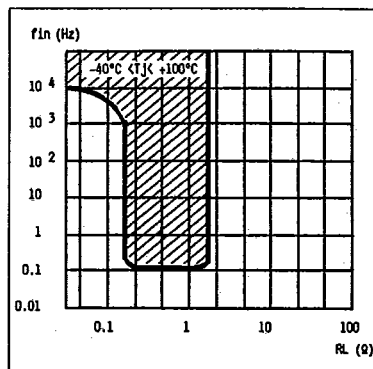

Figure 20. SOA for load resistance vs. input frequency.  $V_{CC} = +5V$ .
Due to a slight delay in the circuit, a high current transient will occur when the output is shorted to GND. This current transient may reach 8A during 5 $\mu s$ . Consequently, switching at high frequencies with a shorted output may destroy the circuit. To prevent destruction of the device in such cases, input switching frequency should be lowered to a safe value or inhibited completely. See figures 20 through 24 "Safe operating areas."
- When switching and an error is detected, immediately decrease the switching frequency. If the error is a short circuit to ground, continued switching may result in an operating point outside the safe operating area, which will shorten life expectancy of the device. See figures 20 through 24.
- For resistive loads, the maximum input frequency can be found in figures 20 through 24. The figures show safe operating areas (SOA) for different supply voltages. The left side of the SOA areas shows correctly working short-circuit protection without exceeding thermal limitations due to repetitive high current transients. The right SOA area shows correctly working driver without exceeding the  $I_{out} = 2A$  limit. The shaded area represents a non-safe area. The limit is set by the short-circuit transients, currents that form a high average level due to short-circuit detection delays. This results in temperatures exceeding the maximum ratings and consequently reducing the life expectancy. Note that, for switching frequencies below 0.1Hz, any load can be tolerated.